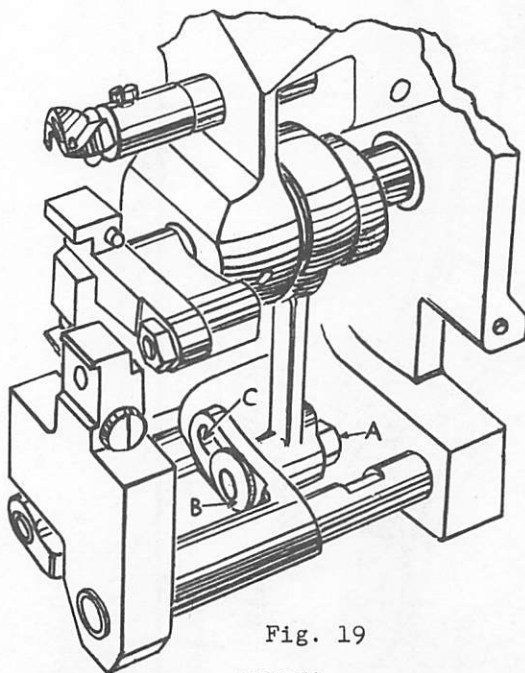

Fig. 19
To set the length of stitch, loosen the hexagonal head screw (A, Fig. 19) that holds the feed drive eccentric connecting rod to the feed rocker. Wrench No. 21388 AG is available for this purpose. Moving the sleeve screw nut (B) in the feed rocker slot (C) toward the cloth plate shortens the stitch, the reverse lengthens the stitch. Make sure that hexagonal head screw is tight after setting the stitch length.